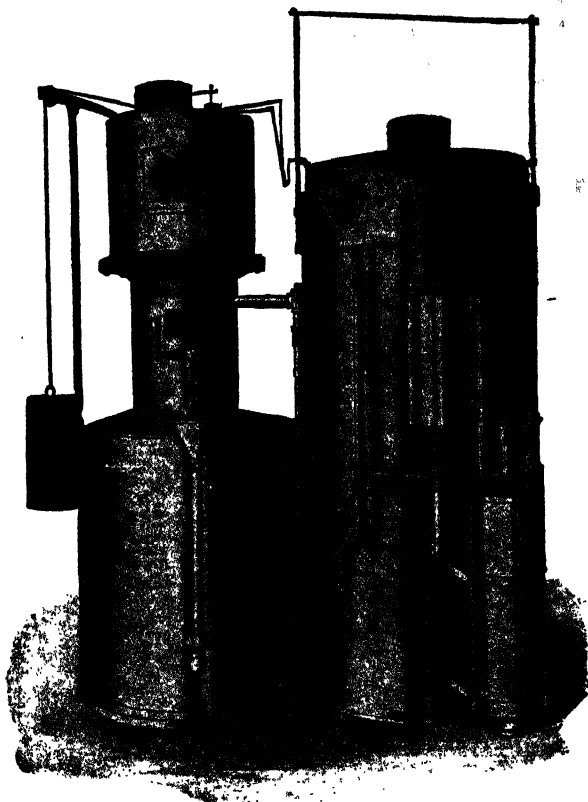

Fig. 4. Low-Pressure Acetylene Generator
*Low-Pressure Generator.* This type of generator, Fig. 4, delivers acetylene to the blowpipe under a pressure of less than one pound. This system has the advantage of maintaining at all times an abso-